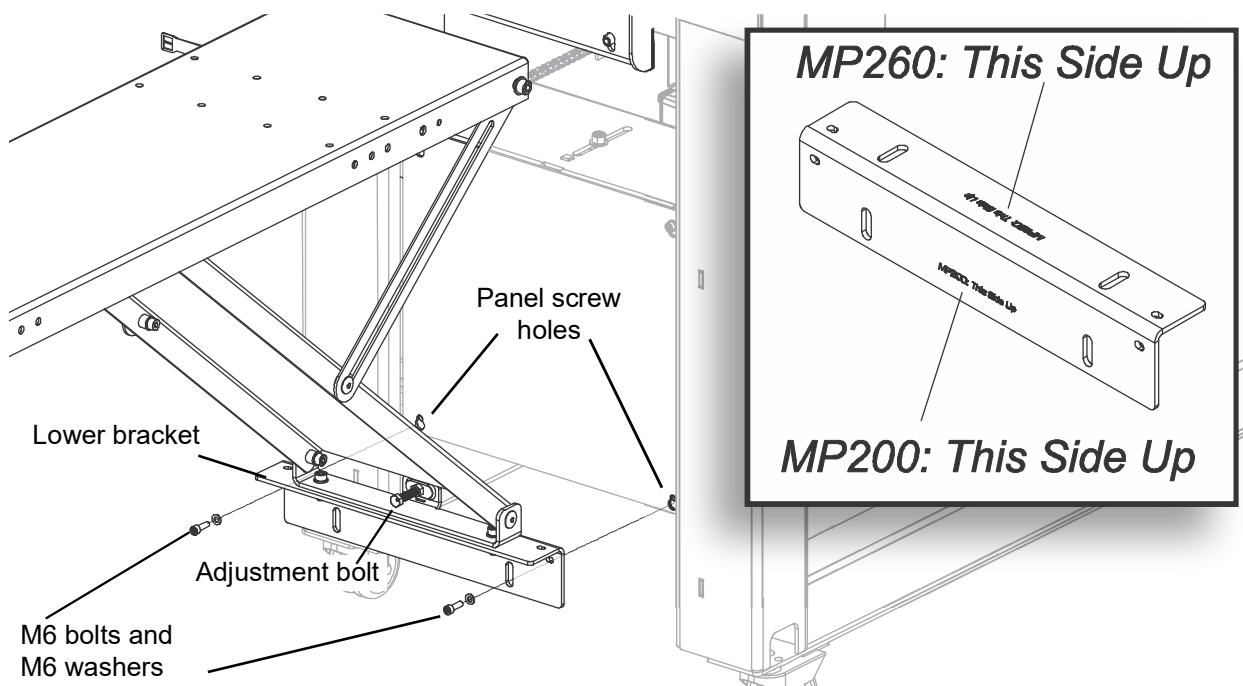

FIG. 3-3
NOTE: The lower bracket is used with the MP200 in a different orientation. Ensure the markings of “MP260: This Side Up” are in the proper orientation. See FIG. 3-3.
5. Secure the lower bracket with the panel screws and washers. See FIG. 3-3.